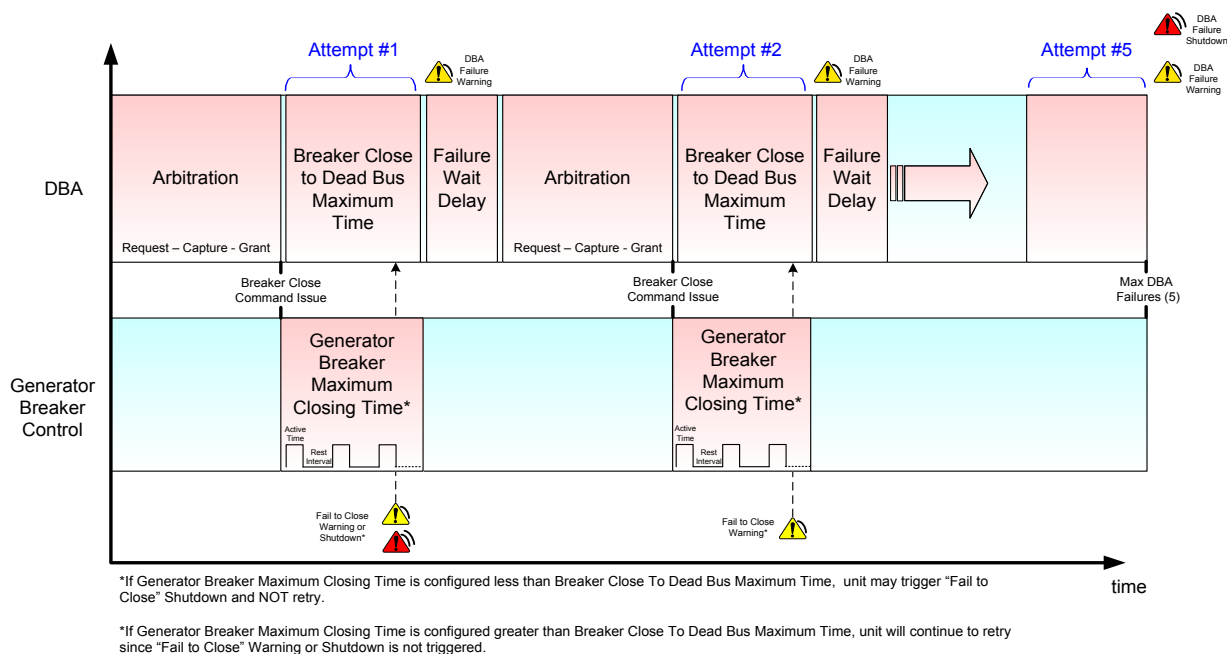

Figure 37.14 – Dead Bus Fail to Close Scenario with Multiple Units Requesting
- If multiple units are requesting, the Breaker Close to Dead Bus Maximum Time (setpoint) determines how long after issuing a breaker close a unit will try to close. If the Breaker Close to Dead Bus Maximum Time (setpoint) expires with no detection of generator breaker closed a Dead Bus Arbitration Failure Warning (SPN-FMI: 2530-17) event is triggered (Figure 37.14).